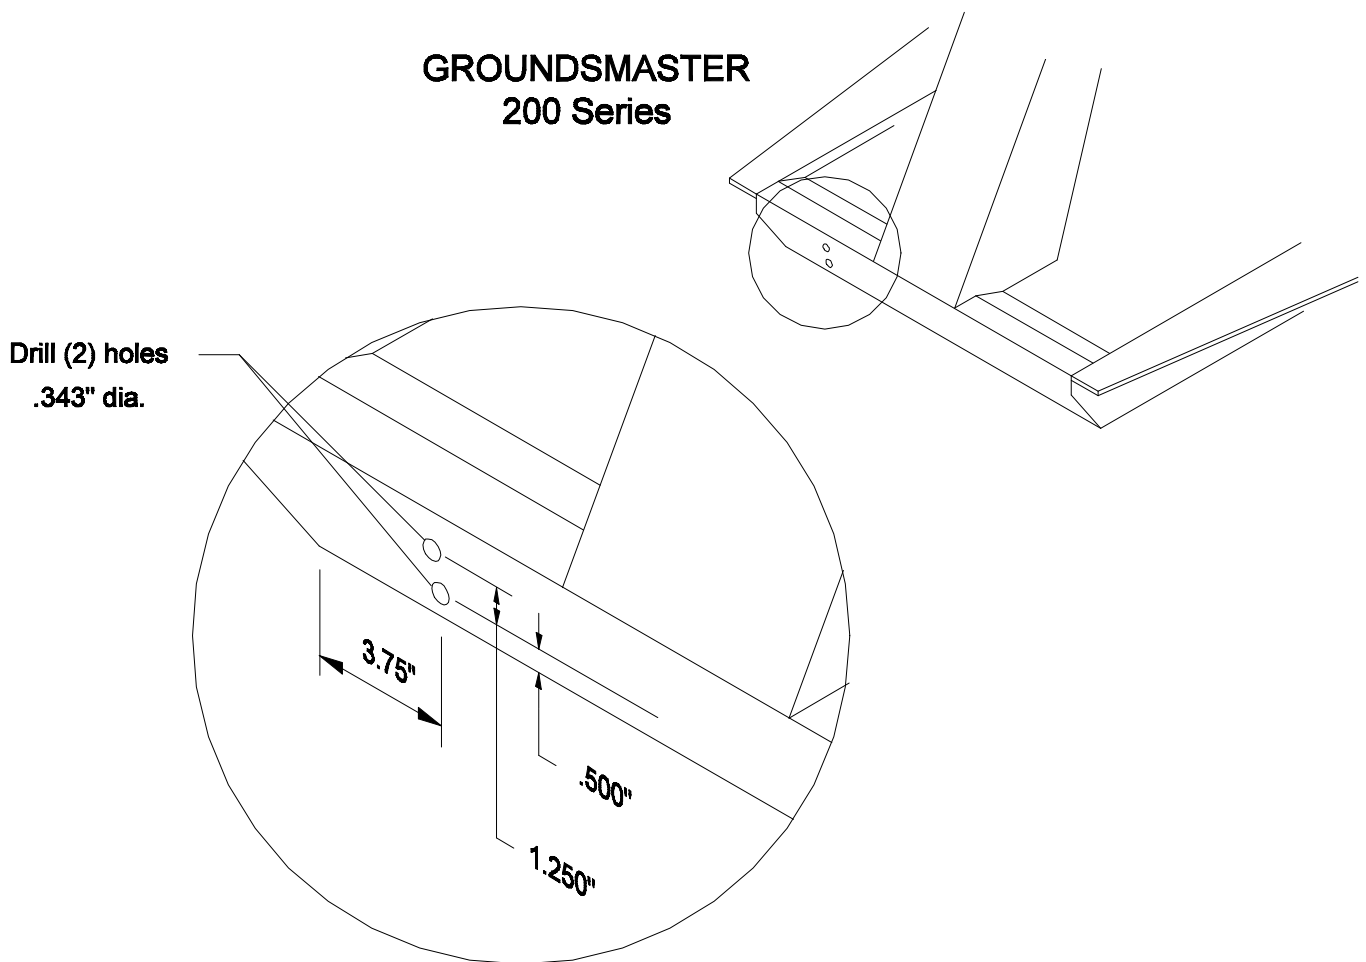

Figure 1
NOTE: Refer to page 3, "COUNTER BALANCE", and Fig. 1 during steps 15 thru 17.
15. Drill two (2) holes in the Groundsmaster using the dimensions shown in Fig. 1.
16. Attach the mounting bracket (item #16) to the front of the Groundsmaster with two (2) 5/16" x 1" hex head flange screws (item #19) and flange lock nuts (item #4).